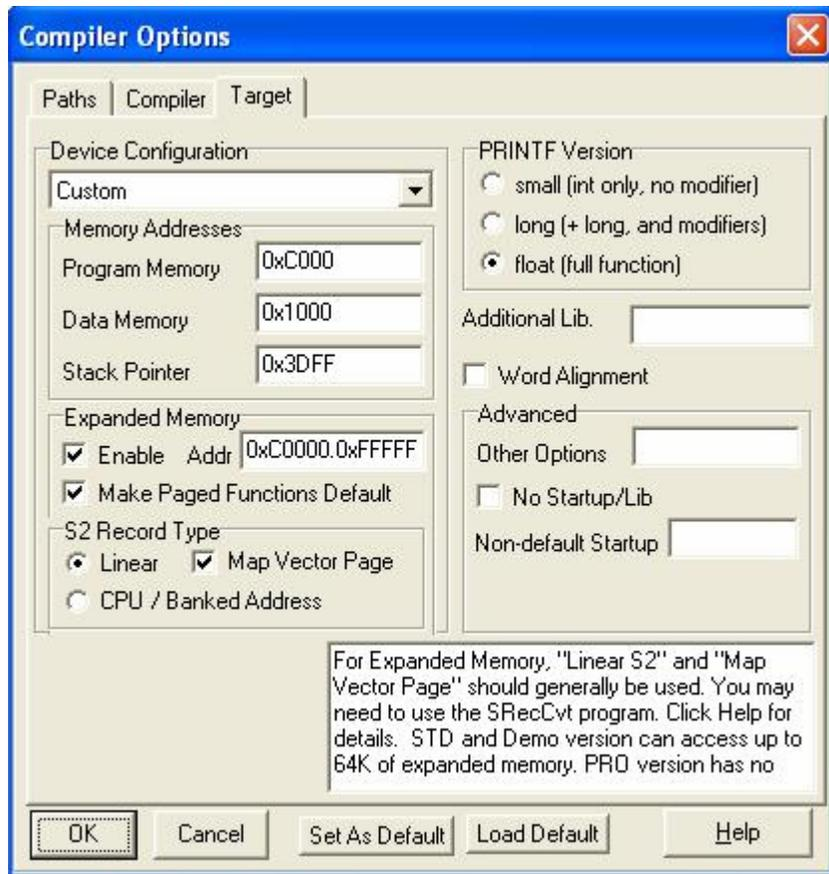

Figure 1. Compiler Settings
- In the "Target" tab, set the option as shown in figure 1. (Even if paged memory is not used, this is necessary for successful flashing.)